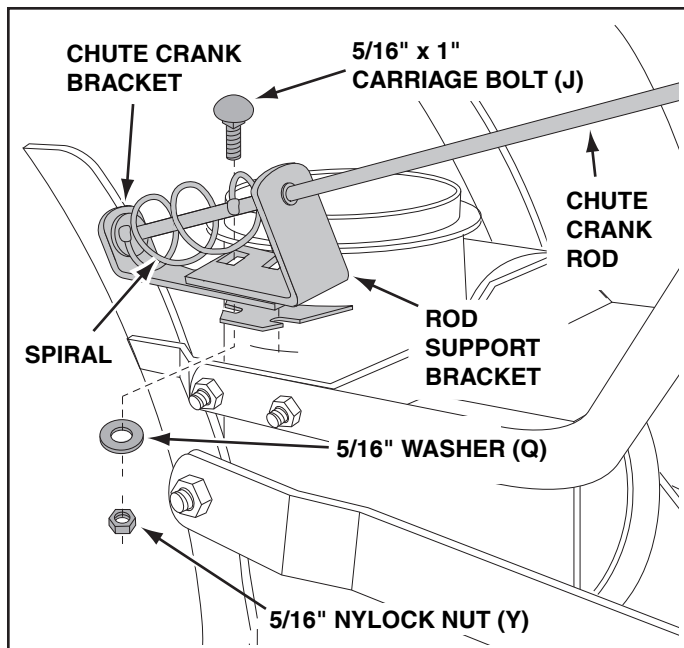
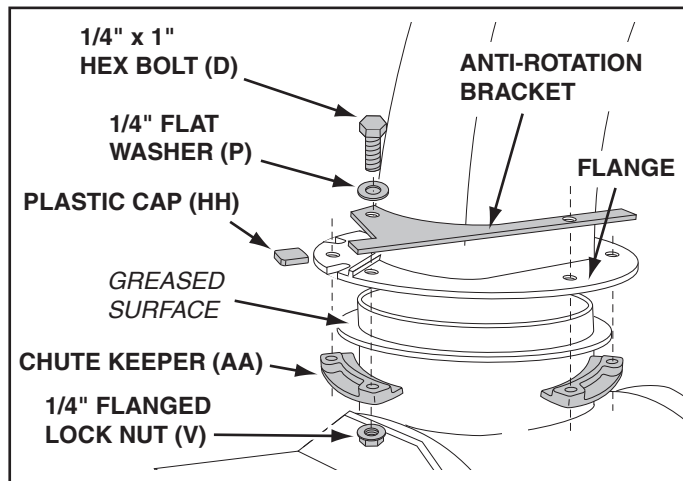

FIGURE 51
FIGURE 52
STEP 52: (SEE FIGURE 51)
- Attach the chute crank rod assembly brackets to the plastic bracket on the left side of the discharge housing. Align the chute crank bracket beneath the rod support bracket and assemble both to the plastic bracket using two 5/16" x 1" carriage bolts (J), 5/16" washers (Q) and 5/16" Nylock nuts (Y). **Do not tighten yet.**
STEP 53: (SEE FIGURE 52)
- Place the discharge chute (facing forward) onto the ring. Place the anti-rotation bracket on top of the chute flange, aligning it with the holes on the right hand side of the flange. Attach the three chute keepers (AA) (right side up as shown) to the bottom of the flange using six 1/4" x 1" hex bolts (D), 1/4" flat washers (P) and 1/4" flanged lock nuts (V). **Tighten carefully** so that the nuts are snug but do not dig into the plastic chute keepers.
- Place the plastic cap (HH) onto the short end of the anti-rotation bracket.
- Position the crank rod spiral (see figure 51) so that it does not rub against the bottoms of the notches in the chute flange. **Tighten** the nuts.
- Secure the control cables to the crank rod support tube using a nylon tie (II).